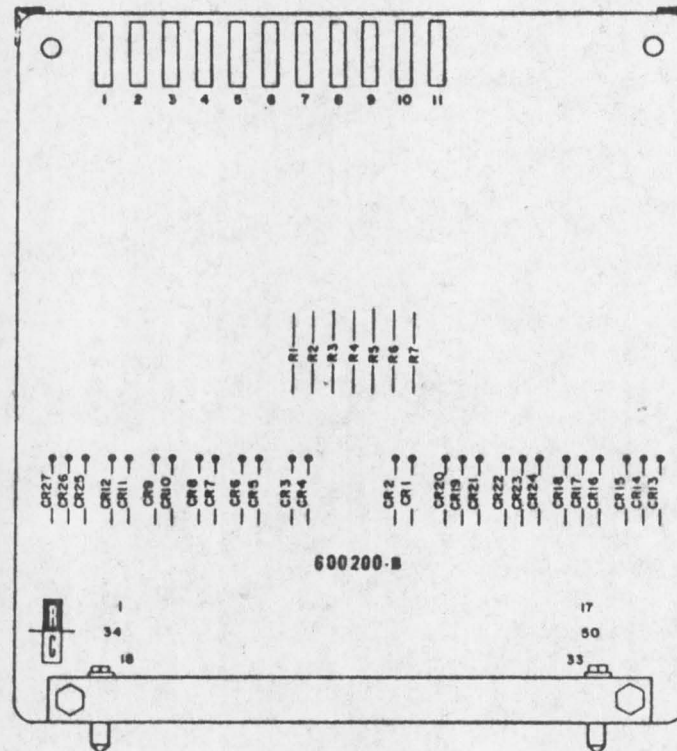

Figure 1 - 600200 Gating Circuits
2. Description - The Model 600200 Gating Circuit (see Figure 1) is a printed circuit board module consisting of six four-term AND gates and five three-term AND gates with seven separate pull down resistors. The circuit board is a standard 50 pin module card with components mounted on one side. The board assembly measures 5 x 5.4 inches and requires one standard card space. Test points are provided on the top edge of the card for waveform observation and troubleshooting during operation.